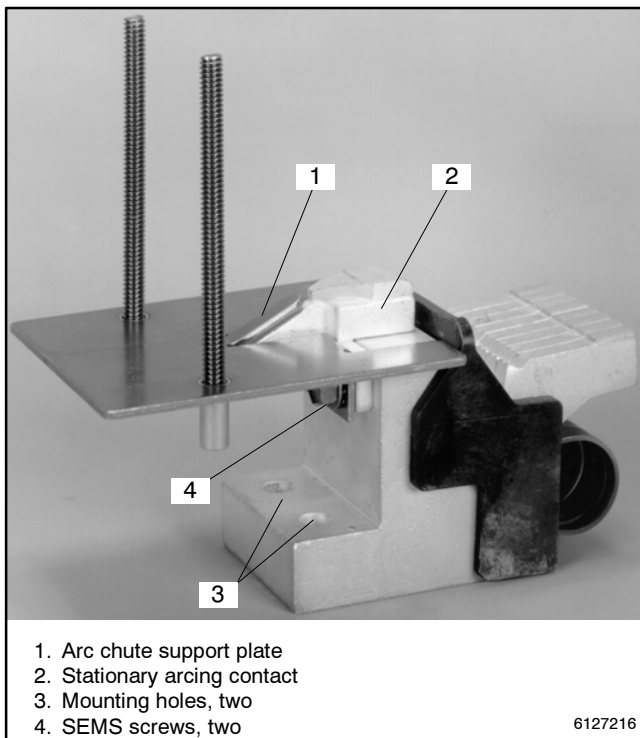

Figure 11-15 Stationary Contact Assembly
4. Remove the stationary contact assembly. Use a 3/8 in. socket wrench to remove the two SEMS screws from the top (or bottom) of each stationary contact assembly. Then use a 1/2 in. socket wrench with 12 in. extension to remove two nuts with lock washers from the base of each main stationary contact assembly. See Figure 11-15.